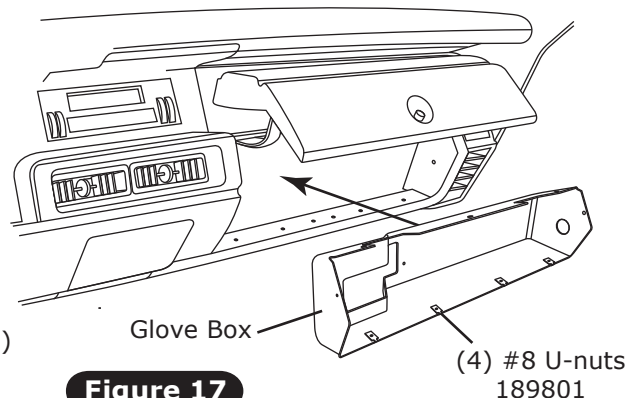

Figure 17
5. Install (4) #8 U-nuts on glove box, and install glove box in glove box compartment (See Figure 17, below).